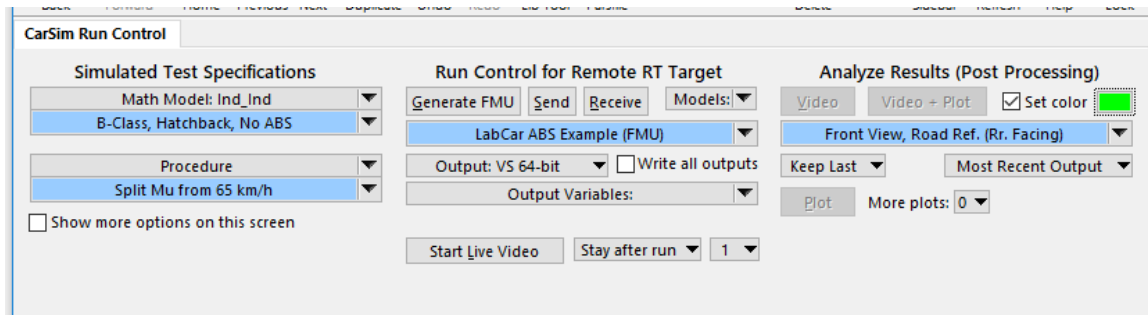

Figure 29. FMU Run Control screen.
- Go back to the Run Control Screen. The control button will change from **OPEN** to **Generate FMU** from “Open”, see Figure 29.